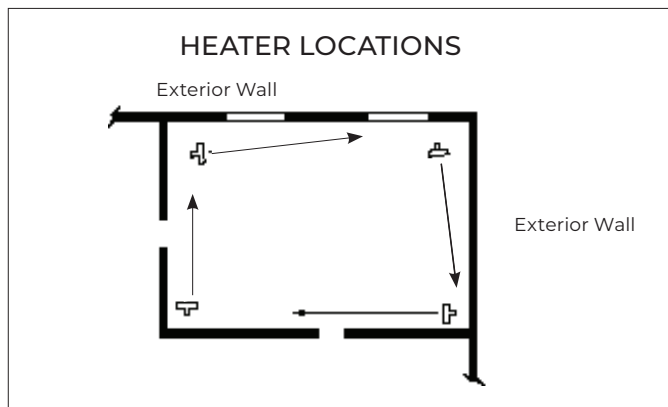

Figure 2
- 1.4 The air discharge is directed across areas of heat loss, such as doors and windows (see Figure 2, page 7).
- 1.5 The air discharge is directed along and at a slight angle toward exterior walls (see Figure 2, page 7).
- 1.7 Air discharge streams support each other and create a circular air flow. It is not required that the heater's air throw reaches the next heater (see Figure 2, page 7).